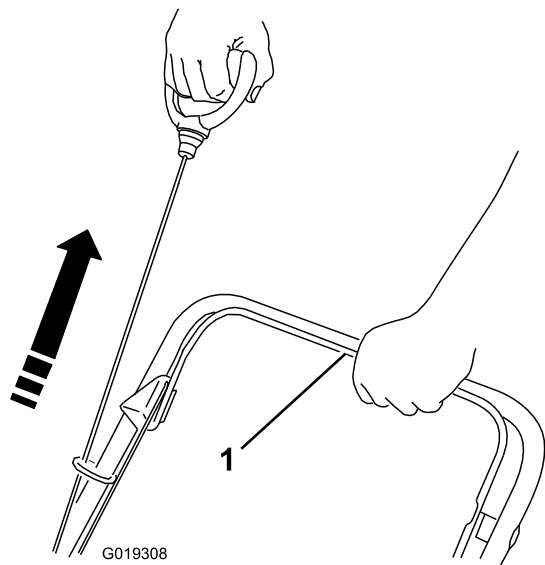

Figure 20
2. Hold the blade-control bar against the handle and pull the recoil starter (Figure 20 or).